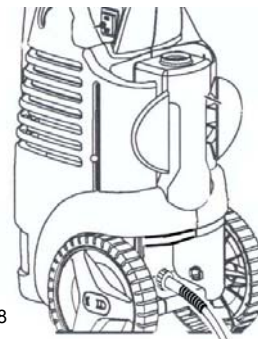

Fig. 8
- While facing the rear of the unit attach the high pressure hose to the high pressure output connector on the back side of the unit. Twist on tight to avoid leakage. (Fig. 8)